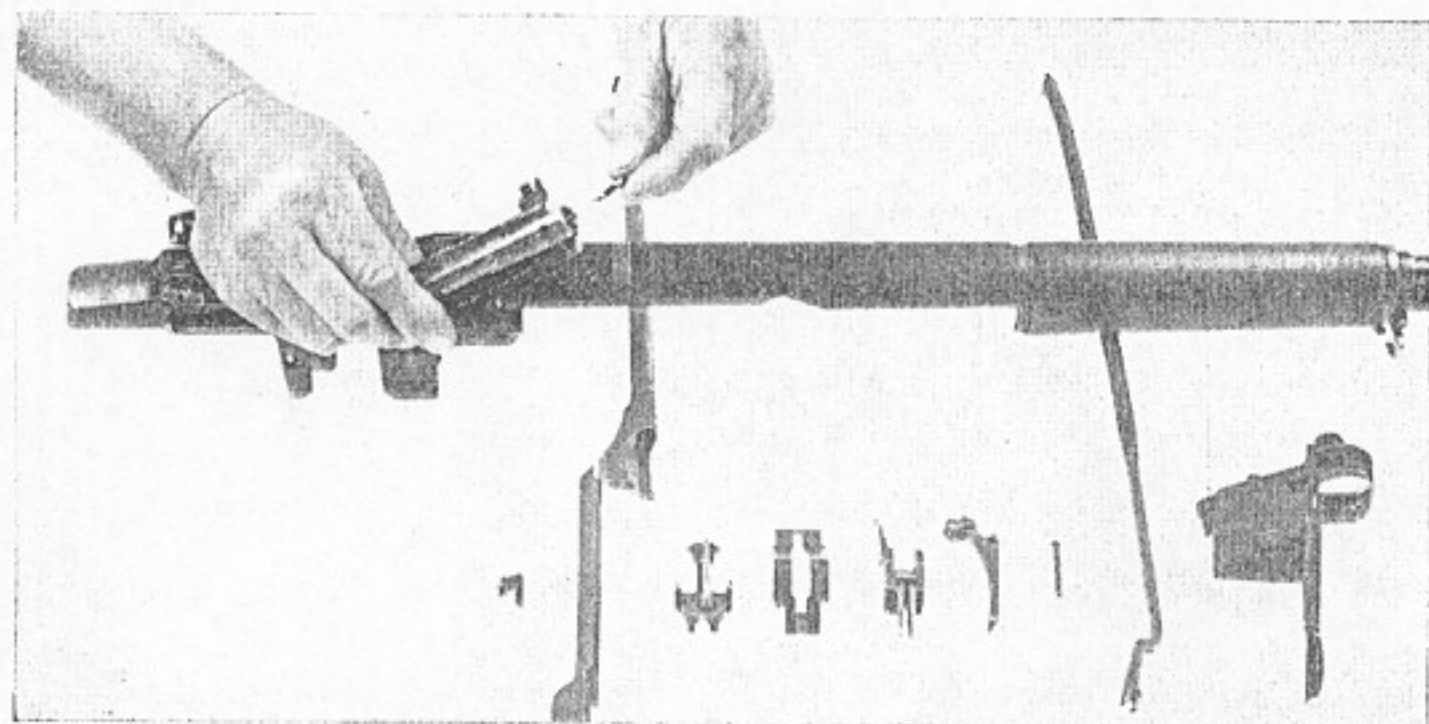

Figure 5. Removing Ejector and Ejector Spring
- (4) (Plate 11, Figure 5.) Remove ejector and attached ejector spring. Do not separate.